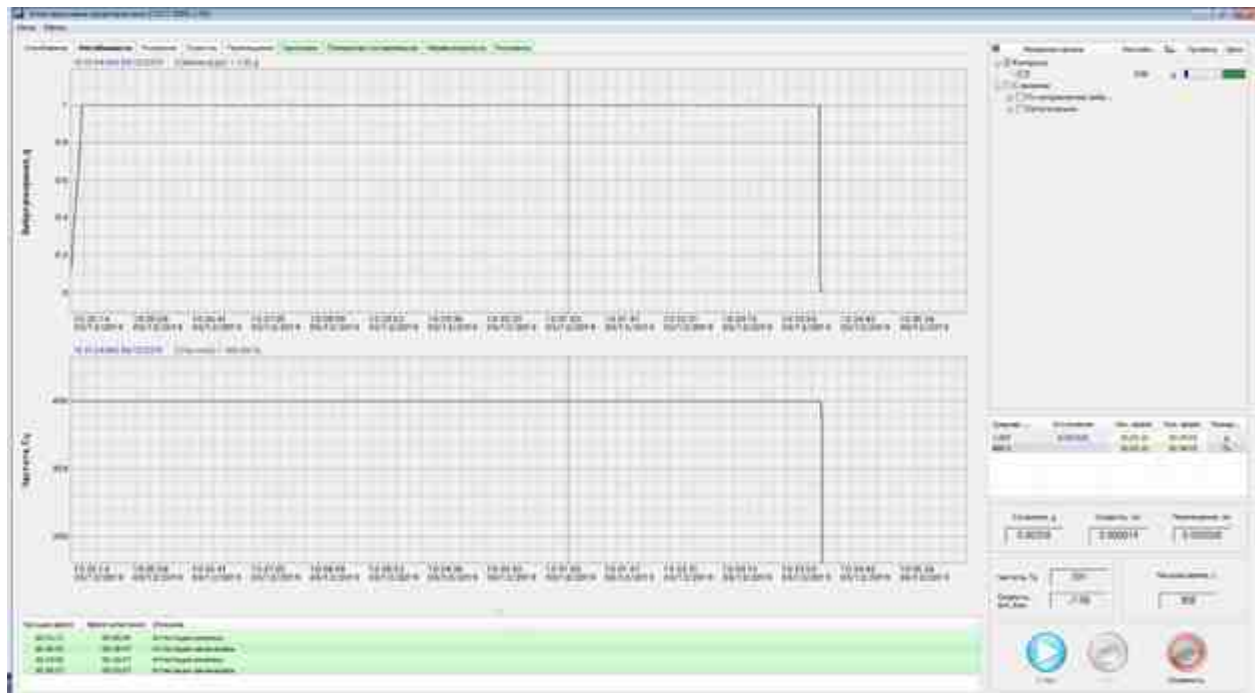

Fig. 6.4 Instability tab
4. At the end of measuring, the results obtained will be displayed (in numerical and graphical form) on the Instability tab (Fig. 6.4).